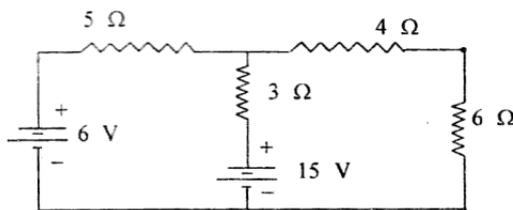

Fig. 2
- (c) State and explain super position theorem. Determine current through 6 Ω resistor. Fig. 2